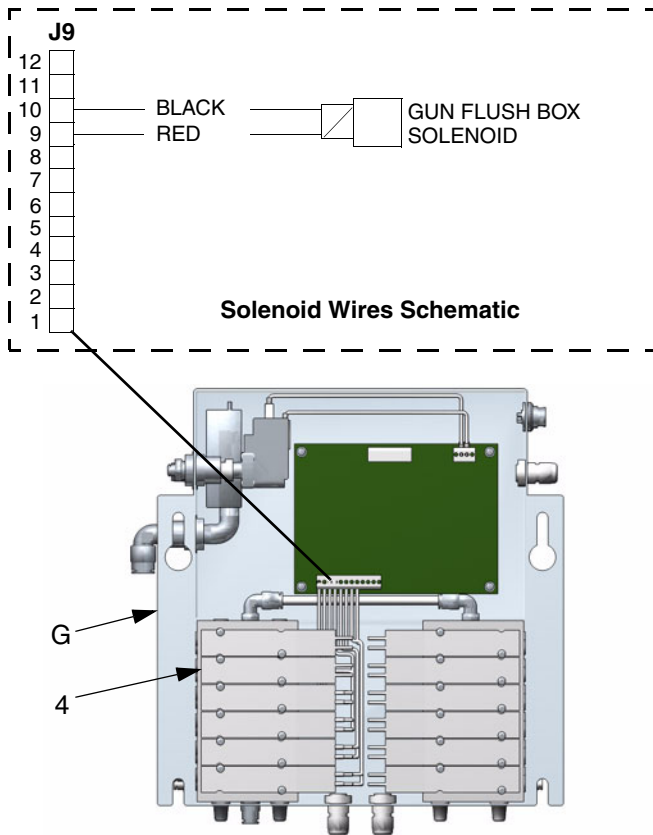

FIG. 4
2. Remove Smart Fluid Panel (G) cover.
3. Remove blank plate at gun flush box solenoid (4) location, and install the solenoid valve (4).
4. Connect solenoid wires to terminals as shown in FIG. 4.
3. From the **C** fitting to the ProMix™ II gun flush box solenoid (4 - FIG. 4) output.